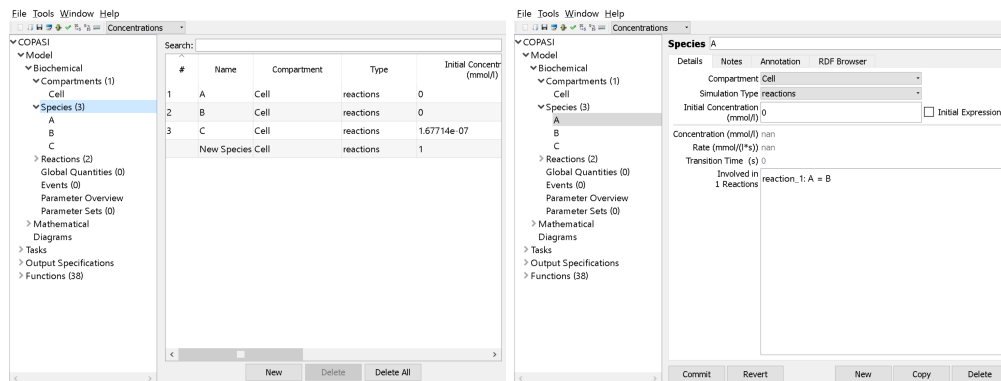

Figure 5: Species setup
Step 7. Species setup-Figure 5